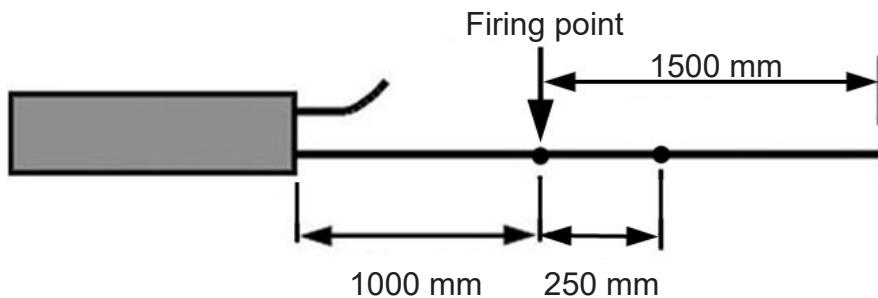

FIGURE A7-13
- 2.23 Make sure that 2.5 m (100") exits the painter sachet. Refer to FIGURE A7-13.
- 2.24 The firing point is 1.5 m (59") from the end of the line. Measure forward 250 mm from the firing point and mark it clearly. Refer to FIGURE A7-13.